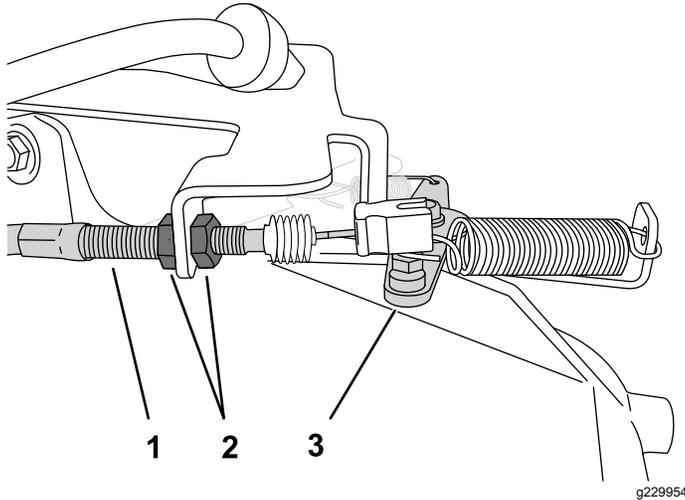

Figure 44
2. At the throttle cable housing, loosen the forward jam nut and tighten the rear jam nut to increase the idle speed (Figure 44).